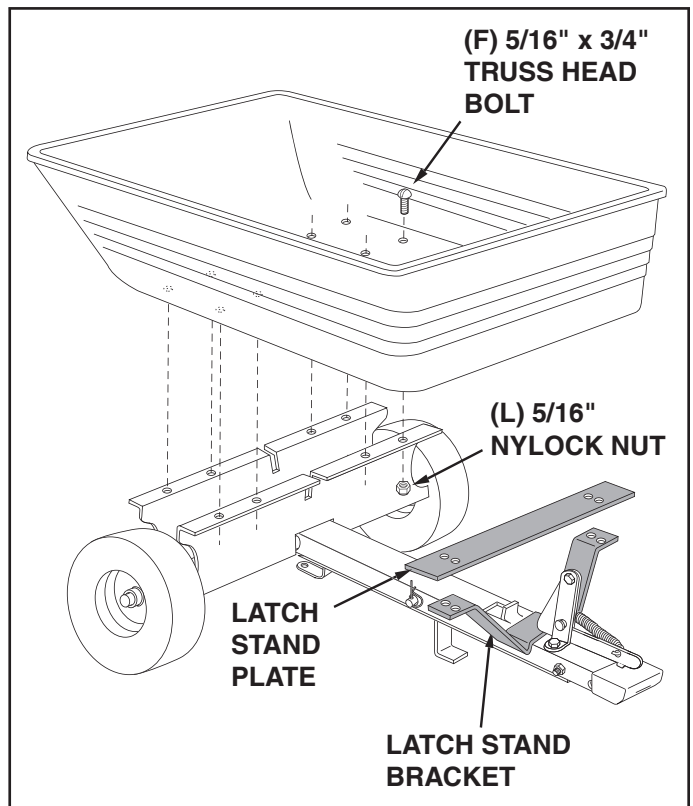

FIGURE 7
13. Turn the assembled tongue, wheel support and wheels over to the upright position. Place the latch stand bracket onto the tongue between the latch lock assembly and the raised tab. Place the poly tray onto the wheel support and latch stand bracket. Fasten the tray to the wheel support using eight 5/16" x 3/4" truss head bolts (F) and 5/16" nylock nuts (L). **Do not tighten yet.** See figure 7.
14. Place the latch stand plate between the latch stand bracket and the poly tray. See figure 7.